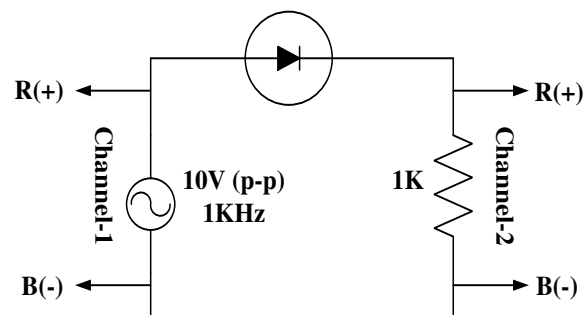

Figure 1. Set up for a half-wave diode rectifier circuit.
1. Consider the half-wave rectifier circuit shown in Figure 1. It is fed by a 1.0 KHz sinusoid having a peak value of 5V. Design the circuit (determine the value of the parallel capacitor) so that the output will have a peak-to-peak ripple of $V_r = 0.5V$ using the